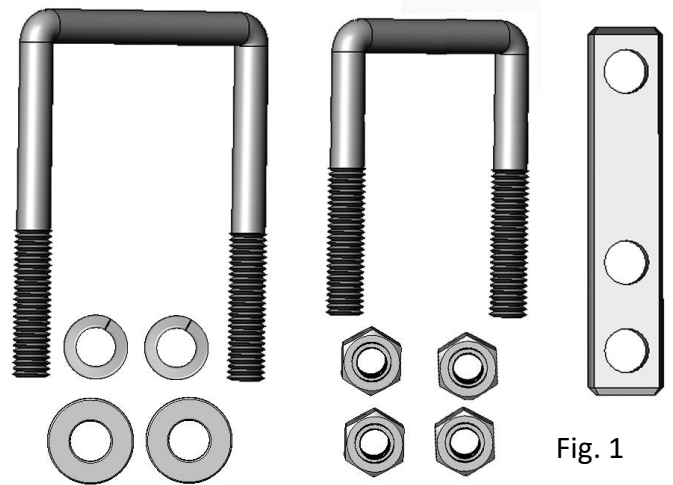
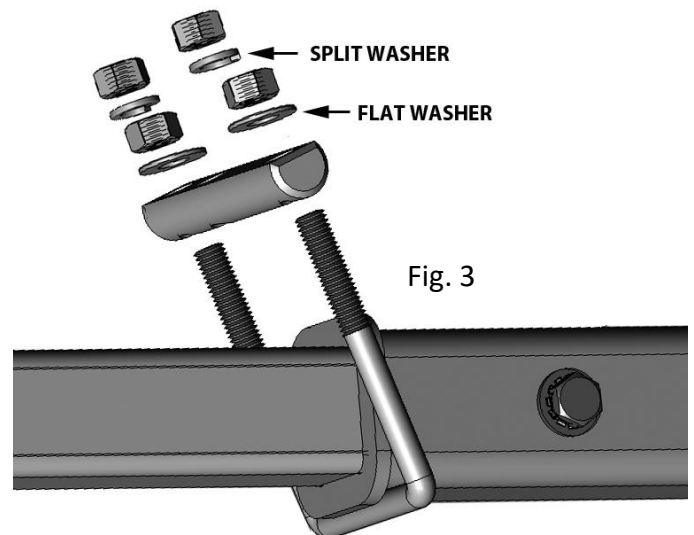

Fig. 1
Fig. 3
1. Check the package contents per Fig. 1.
3. Place the U-bolt below the receiver hitch and behind the flange per Fig. 3.
Slide the hitch tube **A** into the 2" trailer hitch until it stops (Fig. 1, 2). Remove locking head from the locking hitch pin and insert pin through the hole in the trailer hitch and hitch tube until it passes through the opposite side. Be sure the pin passes through the internal tightening loop (located inside the hitch tube, Fig. 3). Push the locking head onto the end of the pin.